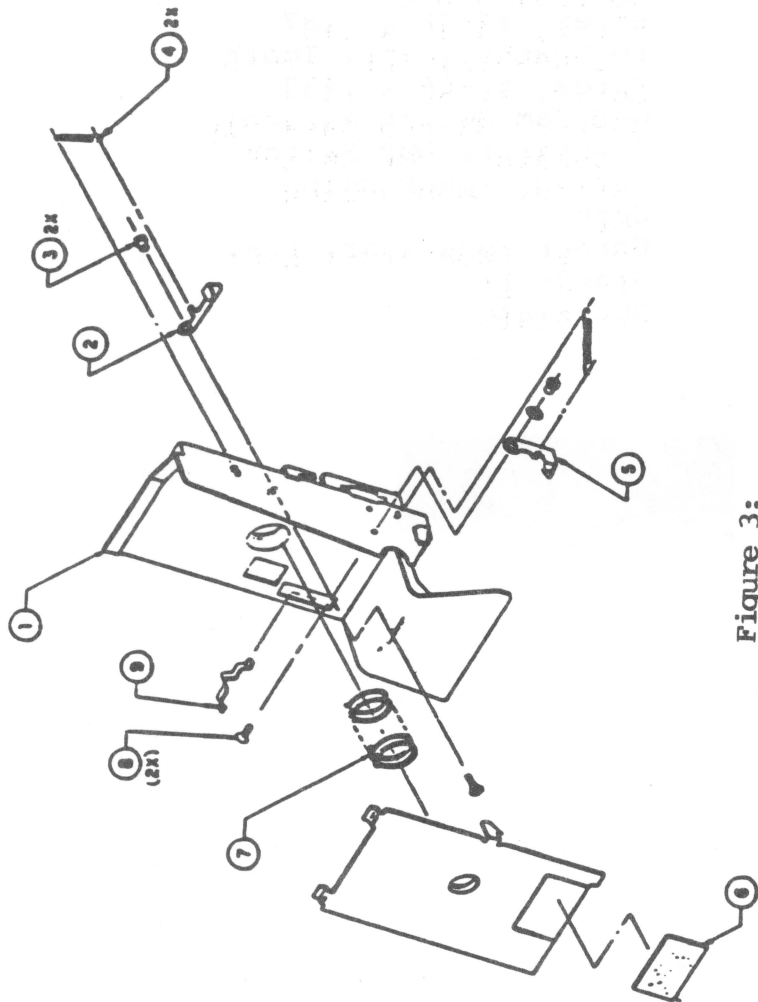

Figure 3:
**SHEET FEEDER, HOPPER ASSEMBLY, RIGHT HAND (Figure 3)**